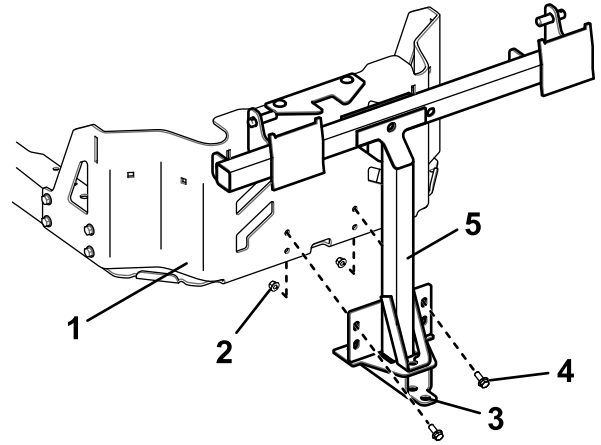

Figure 7
2. Install the pivot frame to the machine frame as shown in Figure 7. Ensure that you push the pivot frame up until it is tight against the bottom of the engine guard. Loosely secure the pivot